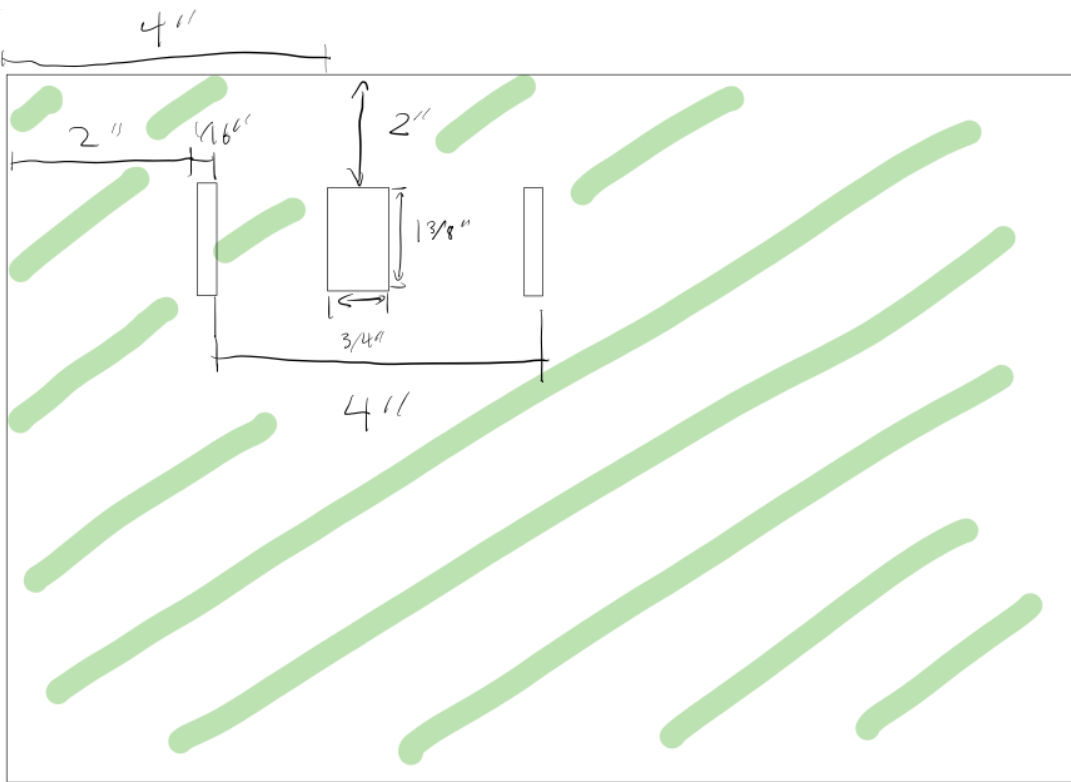

Figure 9: Cardstock Cut Layout
4. For the gray shaded components, put part B into the horizontal cut in part D, leaving about 1" sticking out the front. Put both Part F pieces through the vertical slots in part D, while leaving the slots in part F behind the front of part D. Put part E through the slots in F. Trace the motor level arm onto the center of component A, and then cut out the trace. Glue part A onto the bottom right corner of H. Put both part H components onto part E, as shown in Figure 9. Adjust the location of both H components to be approximately 2 inches apart from each other, while also having about 2 inches from each F component. Glue parts G onto the portion of part B that sticks out the front of D. Have about 1.5" of G glue onto part B.